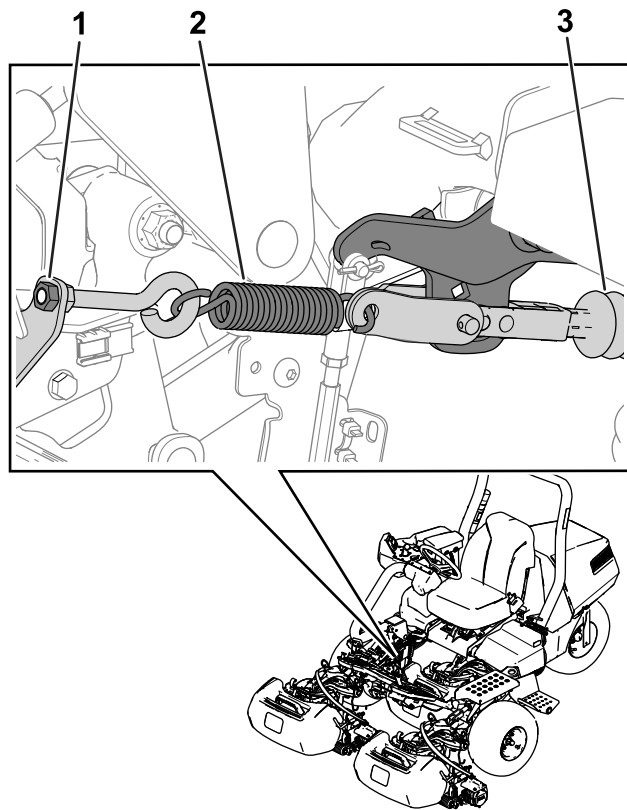

Figure 2
1. Release tension on the brake-actuator spring by loosening the nut (Figure 2) that secures the eyebolt to the spring bracket.